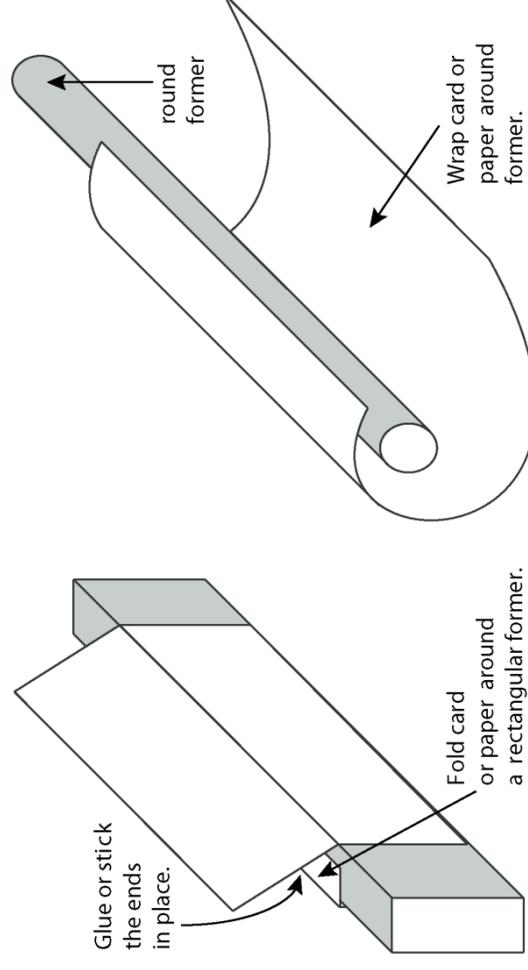

Figure 7: How to make the steel columns
You can make your steel columns using cardboard. Look at Figure 7 to help you. You can make round or rectangular columns depending on the **former** you use:
1. Choose how you will make your columns and then make all the pieces you will need for your model. Have another look at Figure 7 [1]